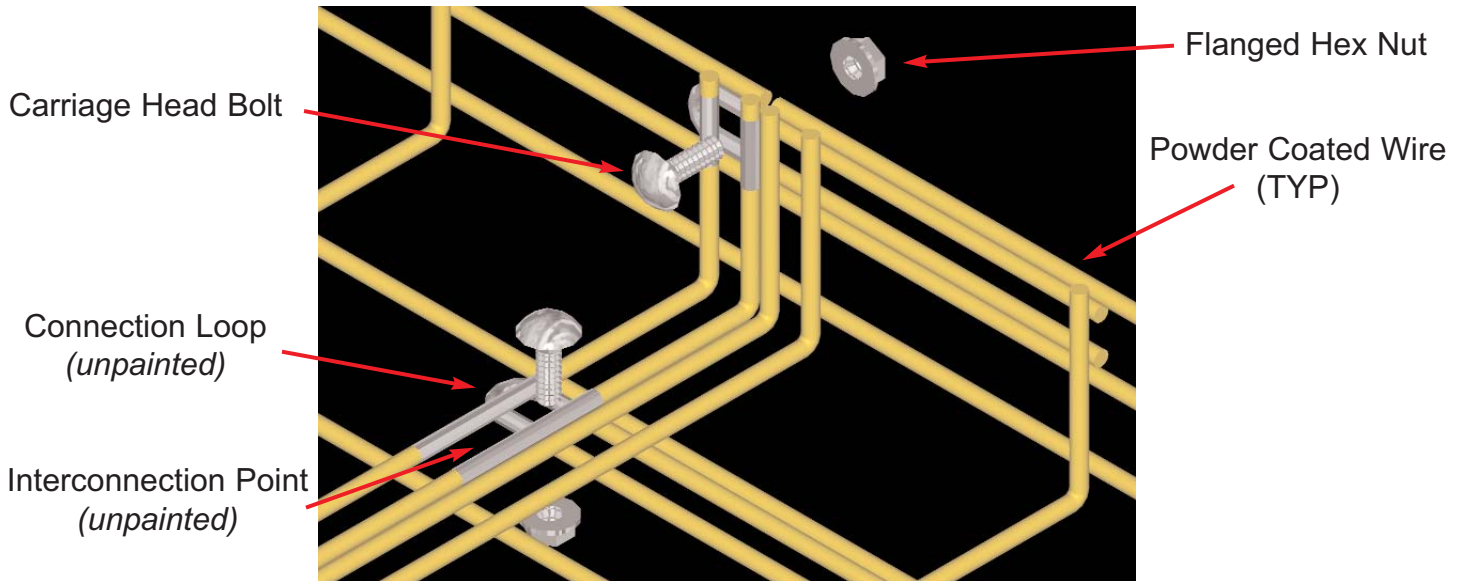

FIG. 1
1. Inspect all connection loops and interconnection points of each cable tray, drop and junction to insure the contact surfaces (both top and bottom) are free from paint, dirt, or other material that may hinder conductivity or proper connectivity (**See fig. 1**).
3. All interconnection points must be secured with a carriage head bolt and flange nut oriented as shown in fig. 1.
4. The heads of all carriage bolts must be located inside of the cable trays, drops or junctions (**See fig. 1**) to prevent damage to the cable insulation.